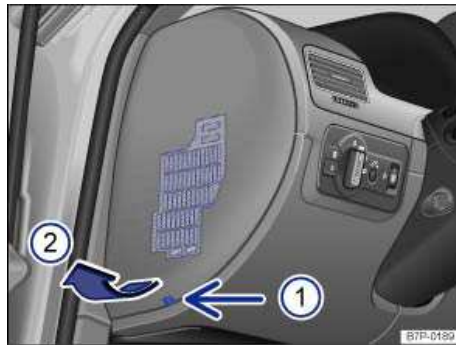
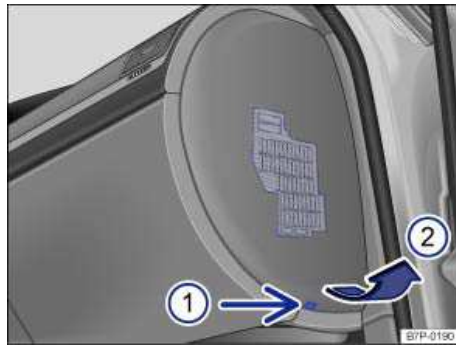

Fig. 345 On the left side of the instrument panel: Remove the fuse box cover.
Fig. 346 On the right side of the instrument panel: Remove the fuse box cover.
- Insert a flat object, such as the screwdriver in the vehicle tool kit, into the opening ⇒ fig. 345 \(1\) or ⇒ fig. 346 \(1\) and carefully pry off the cover in the direction of the arrow \(2\).